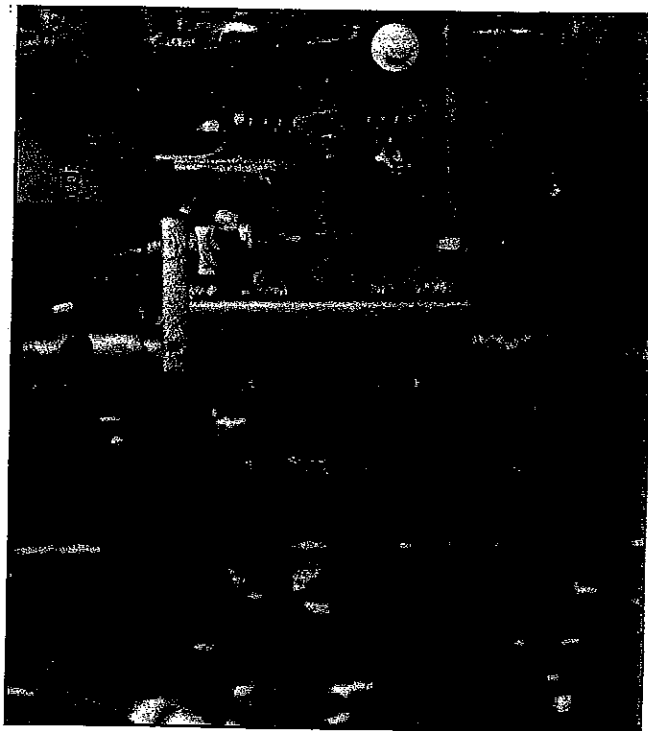

FIGURE 59 - ROW FINDER HEIGHT ADJUSTMENT
this by loosening bolts (A) and sliding the entire assembly in the mounting slots until centered. Tighten bolts (see figure 59).
NOTE: For less than 1" height adjustments, raise or lower the feeler arm by adjusting nuts (B) (see Figure 59).